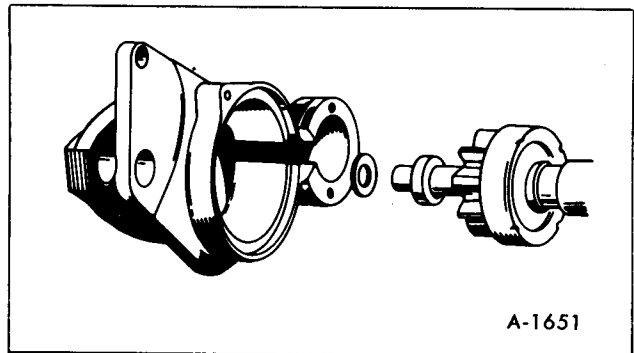

Figure 72—Installing Front Bracket
4. Place the thrust washer on the drive end of the shaft. Slide the armature with the lever into the front bracket (figure 72).